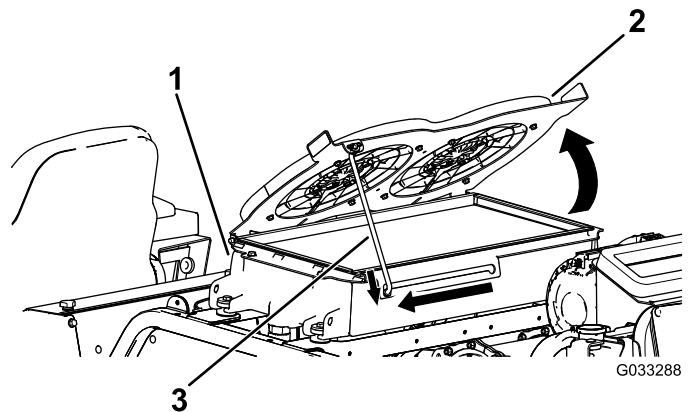

**Figure 108**
4. Pivot the engine-cooling fans forward and lock the prop rod into the notch (Figure 108).